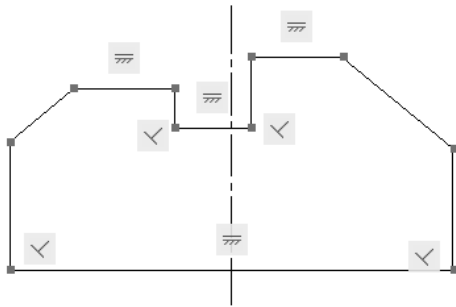

Figure 11-12 Sketch after applying the horizontal constraint
18. Similarly, apply the horizontal constraint to the other three horizontal lines. The sketch after applying the horizontal constraint is shown in Figure 11-12.